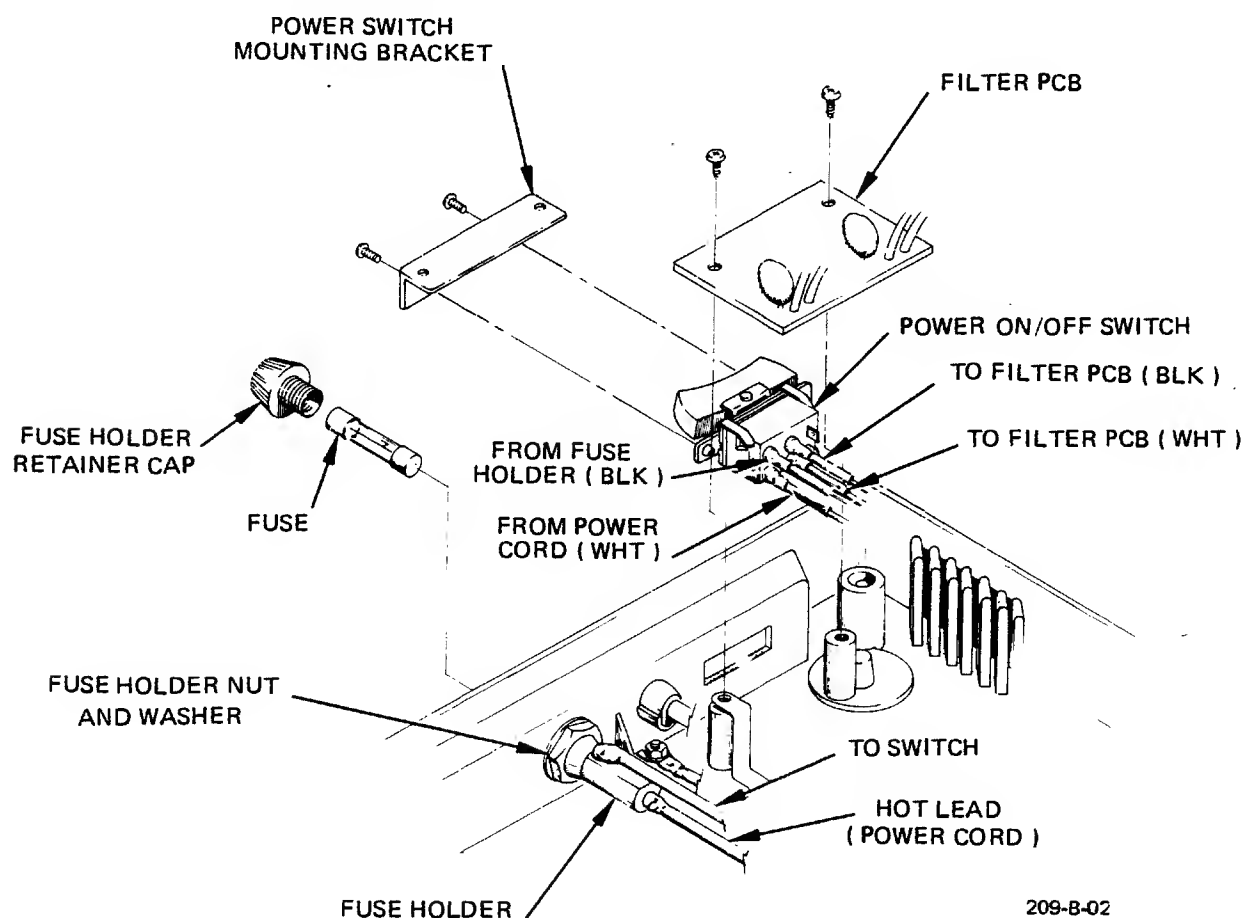

Figure 2-7. Power ON/OFF Switch and Fuse Holder Removal and Replacement
2. Remove the two screws that secure the filter PCB and the power switch with bracket in the bottom cover. Refer to Figure 2-7.
1. Secure the power switch to its mounting bracket with the two screws removed in Step 5 above. Refer to Figure 2-7.
2. Note the arrangement of the two leads on the fuse holder. De-solder these leads from the fuse holder. Refer to Figure 2-7.
1. Install the fuse holder in the bottom cover and secure it in place with the washer and nut removed in Step 3 above. Refer to Figure 2-7.